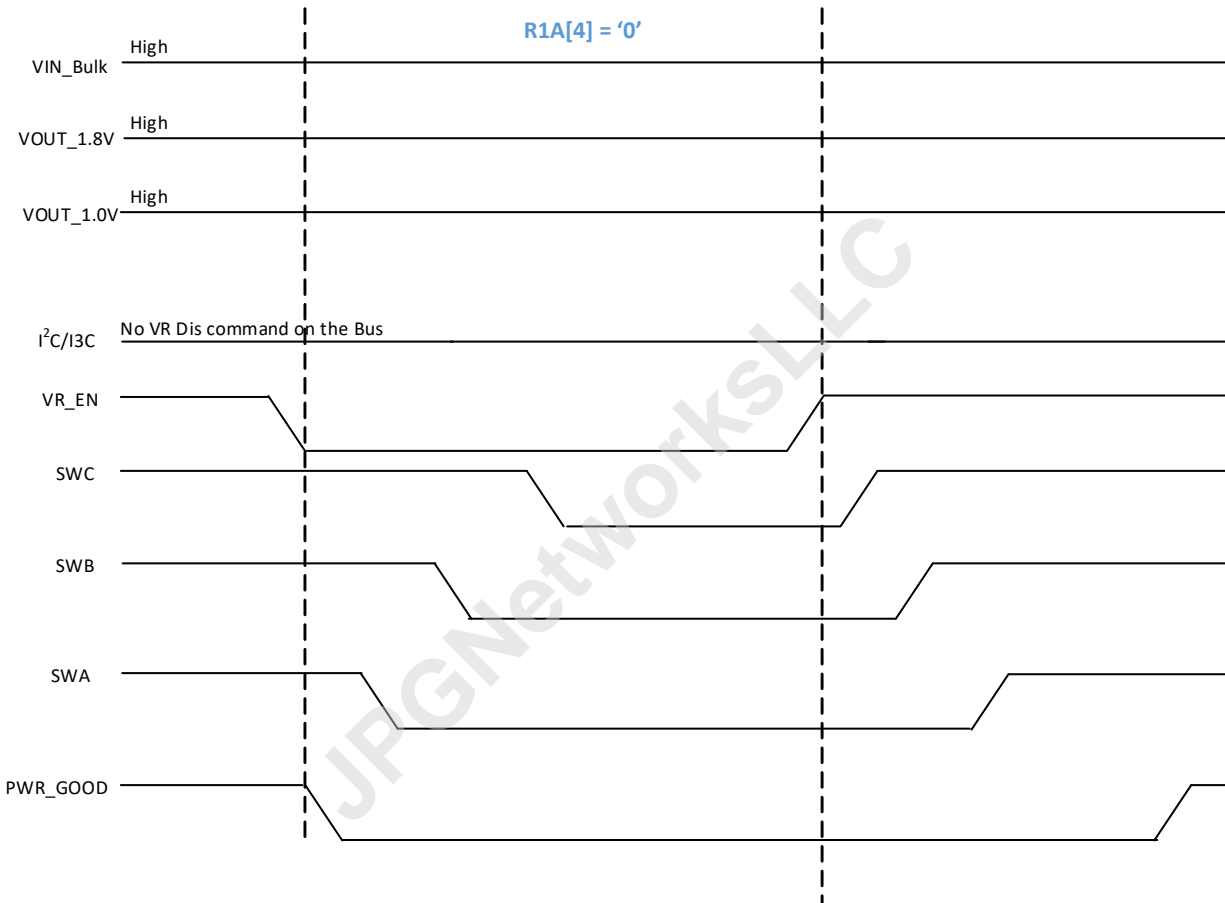

Figure 26 — Power Down with VR_EN Pin; R1A[4]=0; Program Mode; PWR_GOOD Signal
- a. If VR Disable command with a pin (i.e., VR_EN pin transitions to Low), PMIC asserts PWR_GOOD signal Low. The host can re-enable the PMIC's output regulators by VR_EN pin transition to High. The PMIC executes power on sequence config 0 to power on sequence config 2 registers and floats PWR_GOOD signal after tPMIC_PWR_GOOD_OUT timing parameter is satisfied. See Figure 26. The PMIC does not require power cycle.